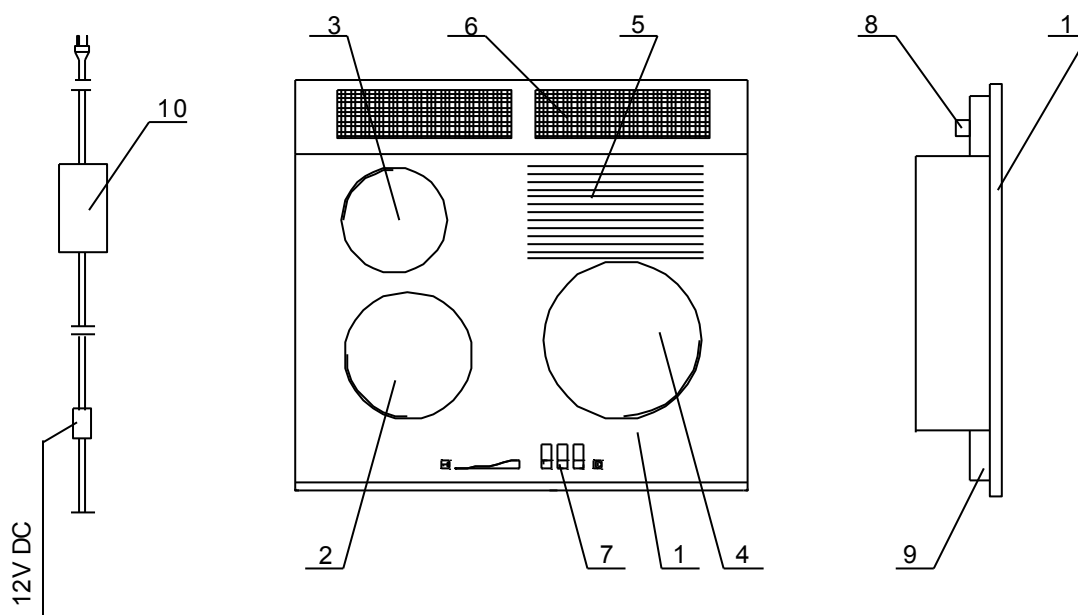

Fig. 1
1.3. Design of the gas hob The hob (fig. 1) has **three** injector gas burners rated as specified in the table above, with a ceramic insert, equipped with igniting electrodes and ionizing detectors of burning gas. Burners in which catalytic combustion of gas takes place produce **infrared radiation**. They are covered with a ceramic panel with four separate hot fields above the ceramic burners, indicated graphically on the panel, and two hot fields above combustion gas ducts of gas burners, which **do not consume gas**.
Note: "H" also refers to the additional hot area, which means that additional hot field (no 5 fig.1) may be hot as well.
3.8. Utilization of combustion gas heat. The GPC-3 ceramic gas plate has additional hot field – no 5, which is shown on fig. 1, using the heat of combustion gas leaving the burner to the outlet grate situated in the rear part of hob. This hot area can be used for warming up meals that do not require high temperature. Use of this hot area significantly reduces the hob maintenance costs, as we utilize the heat of combustion gas emitted from the burner. **Note:**